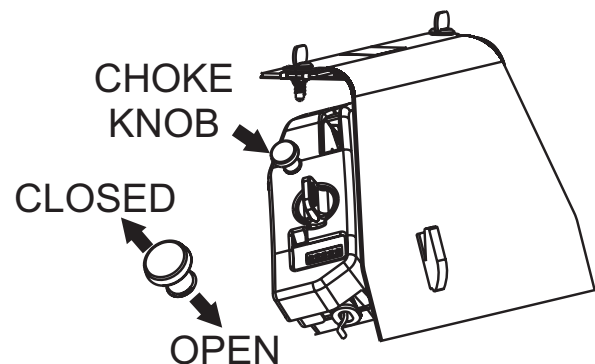

Figure 12. Choke Knob
2. When starting a cold engine, pull the choke knob (Figure 12) out to the **CLOSED** position. In warm weather or when the engine is warm, the unit can be started with the choke halfway or completely open.